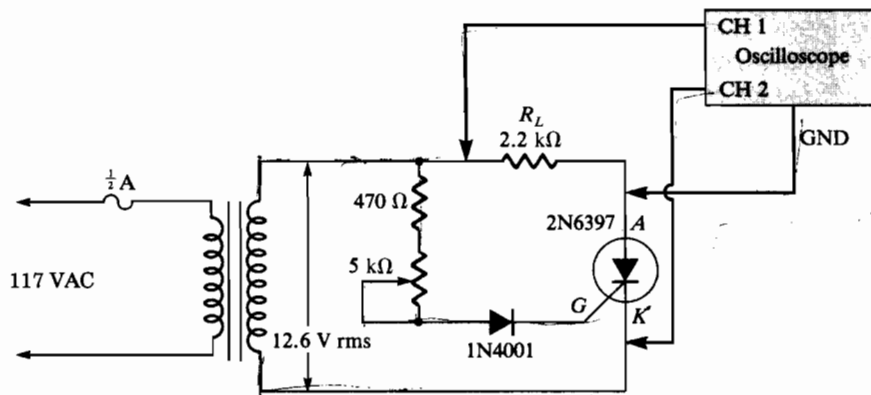

FIGURE 28-2 Schematic diagram of circuit.
9. Wire the circuit shown in the schematic diagram of Figure 28-2. Initially set the 5-k Ω potentiometer to approximately 2 k Ω . In addition, set your oscilloscope to the following approximate settings: